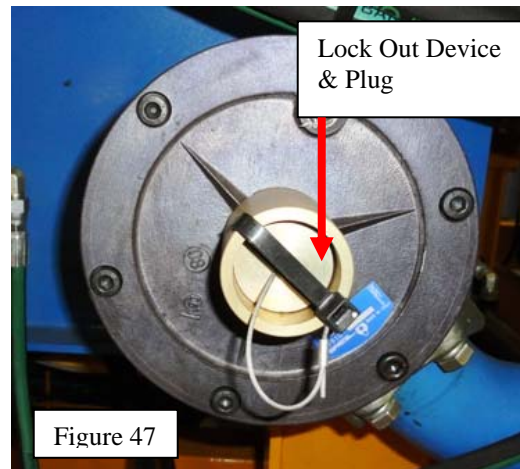

Figure 47
The suction line strainer is located on the right side of the reservoir (Figure 47), remove and inspect the filter after the first 40 hours of operation and refer to Hydraulic Component Maintenance Schedule inspection for designated intervals.
2. Remove Lock out device & plug (Figure 47).